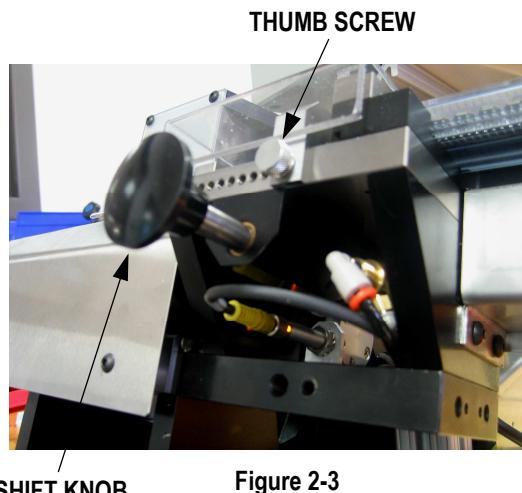

Figure 2-3
5. Replace guard. See Figure 2-3.